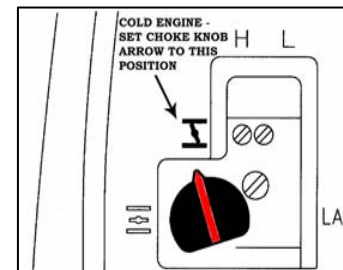
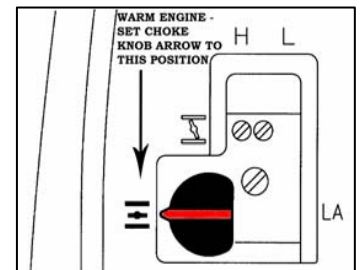

Fig. 32. Choke position - cold engine.
Fig. 33. Choke position - warm engine.
- ☐ 6. If the engine is COLD, turn the choke knob to I choke “UP” located above the starter rope (Fig. 32). If the engine is ALREADY WARM, place the choke knob down to the open position (Fig. 33).